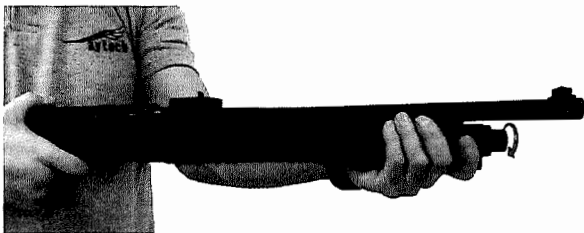

Fig. 5
7. Make sure the barrel and forend are seated tightly by turning the magazine cap clockwise. (Fig. 5)